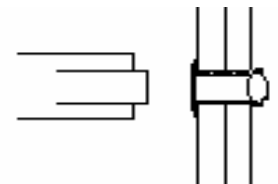

Figure 4. Pulling Head on Rivet.
8. With pulling head parallel to axis of rivet, upset rivet. Exert firm pressure but do not bend or buckle metal sheets. Stem will break off below rivet head surface. No trimming should be required. Refer to Figure 4 for this step.